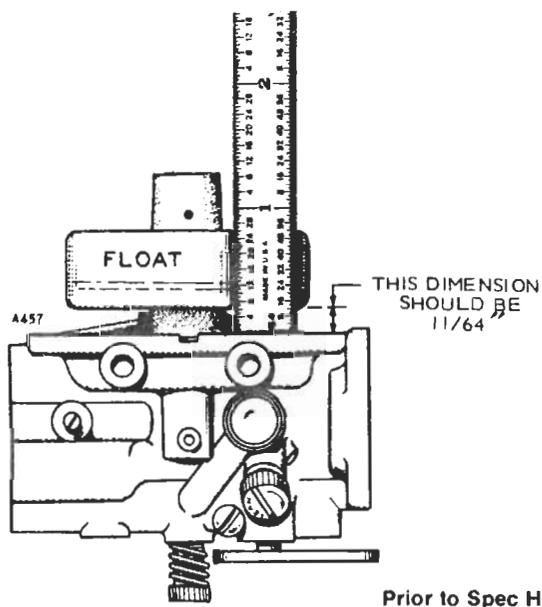

FIGURE 18. CHECKING FLOAT LEVEL
Check the adjusting needles and nozzle for damage. If the float is loaded with fuel or damaged, replace it. The float should fit freely on its pin without binding. Invert the carburetor body and measure the float level (Figure 18). If necessary, bend the small lip that the intake valve rides on to adjust float level.
5. Check float level with the carburetor casting inverted. See Figure 18.